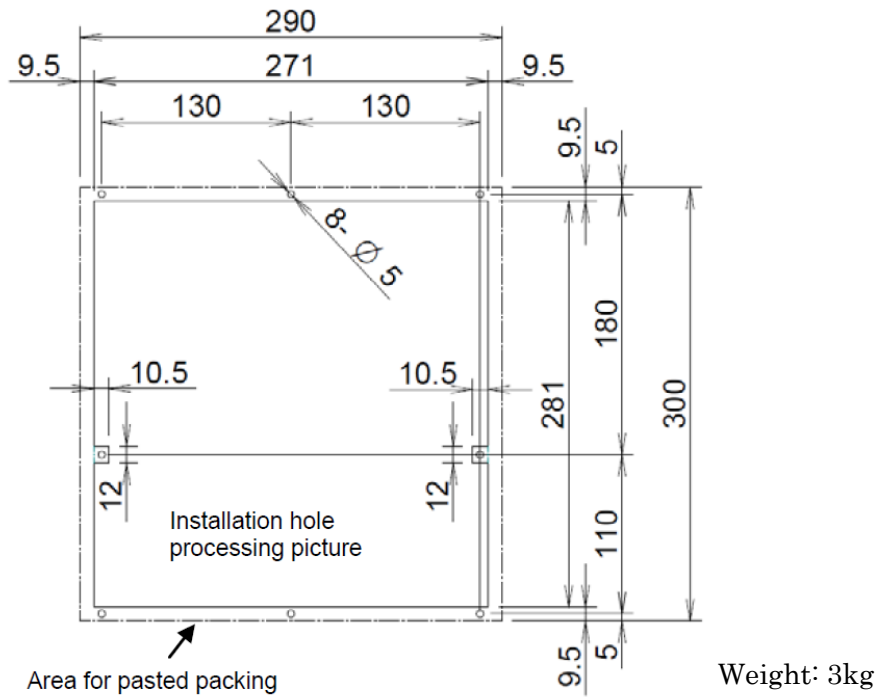

Fig. U14 10.4" LCD/MDI unit(Vertical) ④
10.4" LCD/MDI unit(Vertical)	Fig. U14